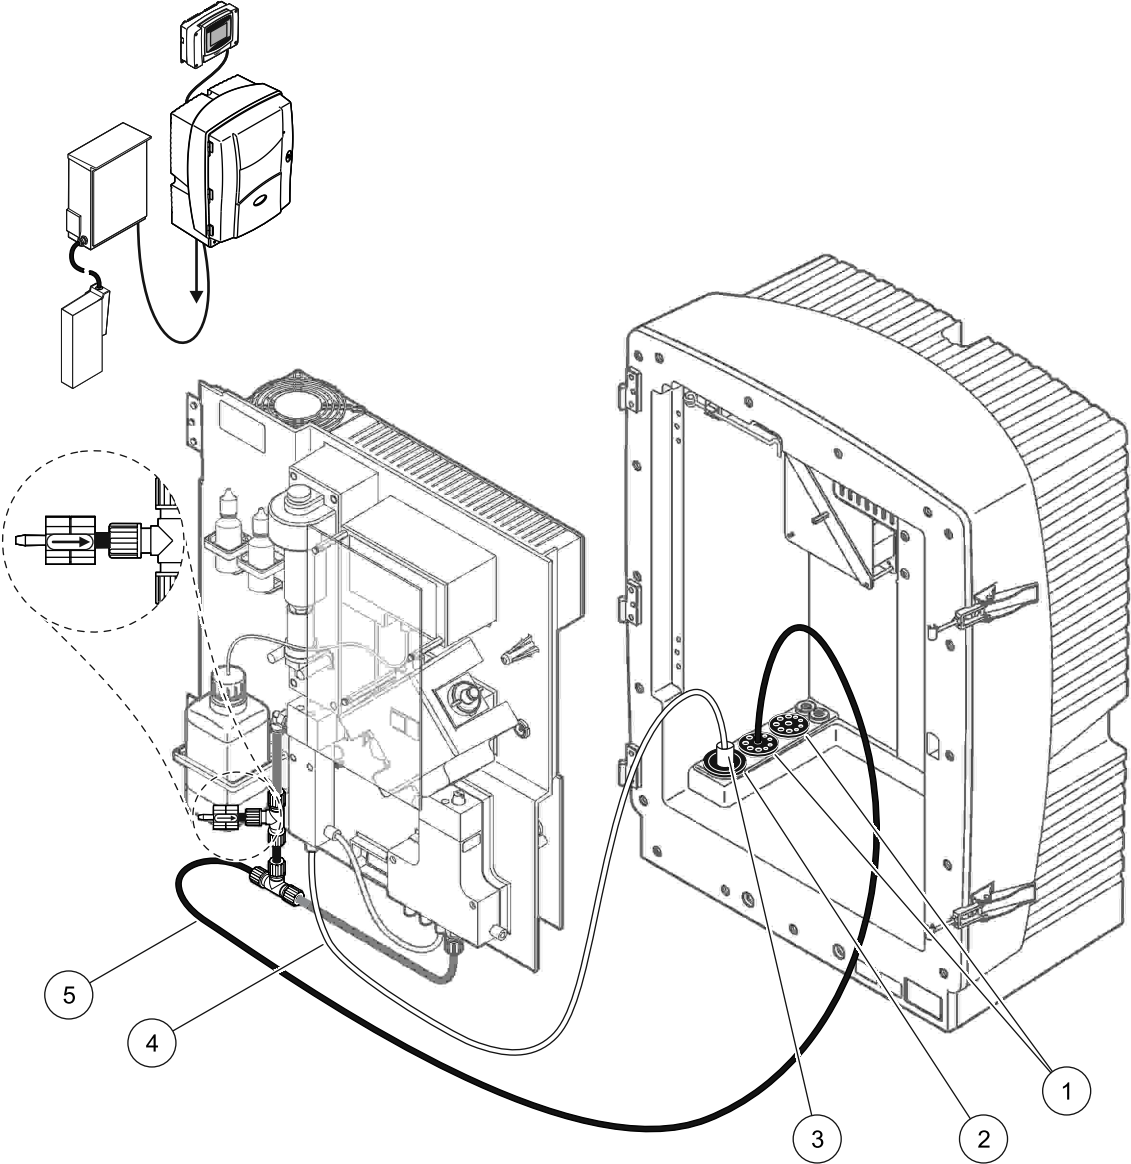

Figure 36 Option 8a Setup
Refer to Figure 36 and the following instructions for Option 8a:
2. Feed the heated hose from the FILTRAX through the analyzer opening (Figure 36, item 3). Use Seal Plug #1 to secure.
3. Feed the drain tube through the analyzer opening (item 5). Use Seal Plug #3 to secure.